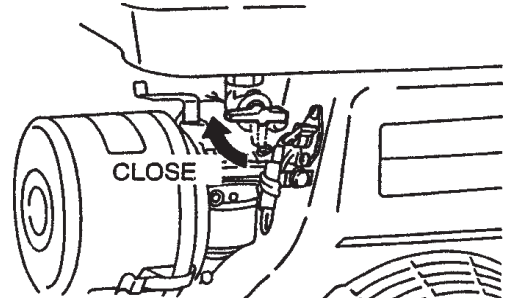

Figure 17. Fuel Valve Lever (OFF)
- Place the **fuel shut-off lever** (Figure 17) in the **OFF** position.
3. As shown in Figure 17 (next page), place a water hose inside the discharge opening of the pump, and turn on the water. This flow of water into the discharge opening will **prevent** the pump from running dry.